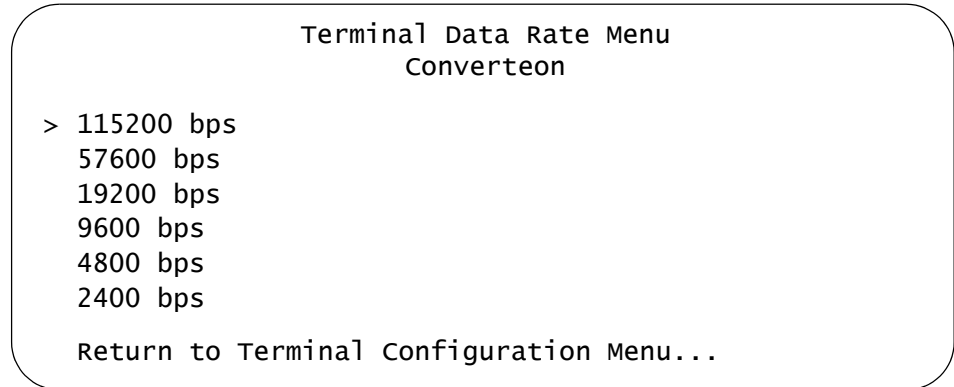

Figure 52. Terminal Data Rate Menu
5. Select **Data rate (baud rate)** to display the Terminal Data Rate Menu shown in Figure 52.